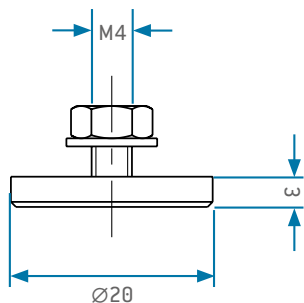

Fig. 113
- The example (see Fig. 113) shows the assembled adapter alignment system for the platform Part-Nr. 638.050.000.000.003.